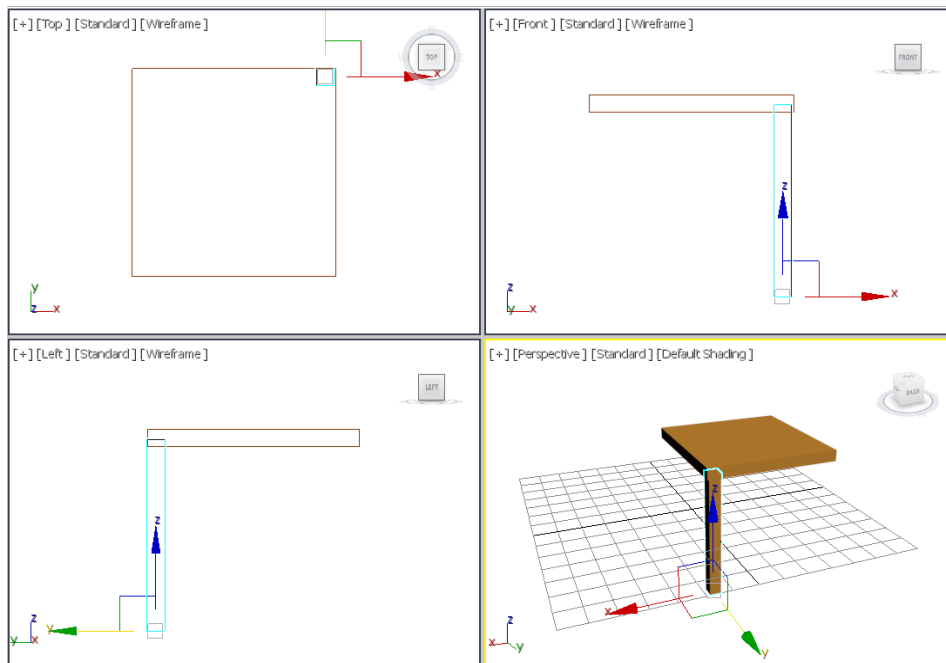

Figure 2-59 Alignment of *leg01* with *base*
5. Rename the box as *leg01*. Next, align *leg01* with *base*, as shown in Figure 2-59.